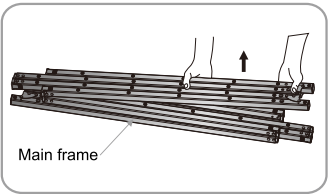

Figure 3
2. Lay the main frame on the floor with the fabric rivet facing up. Stretch the tuning joints as the arrow indicates (Figure 3 - 4).